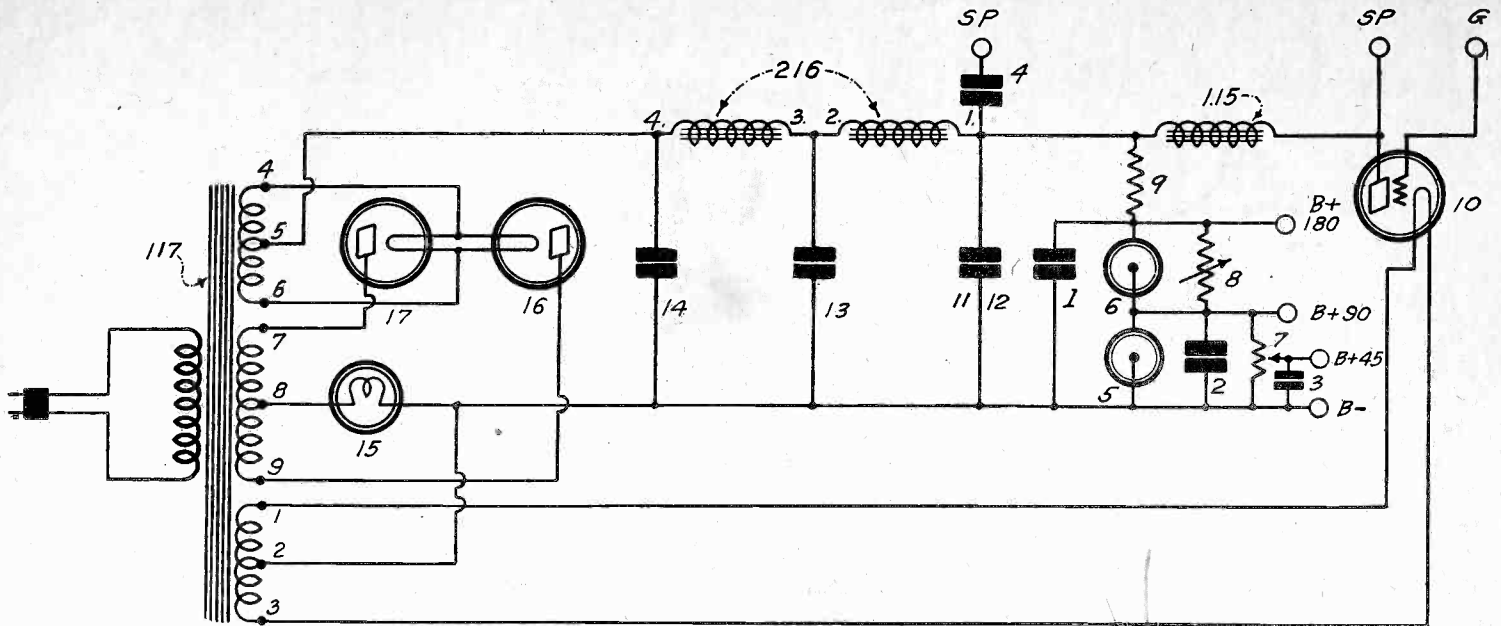

FIG. 729
(1)—Fig. 729 shows the Victoreen power supply. The connections of the two voltage regulator tubes are shown at (5) and (6).
(2)—Connect the field winding across the lower voltage regulator tube. Readjust the resistors marked (8) and (9) so as to maintain the proper voltage distribution.